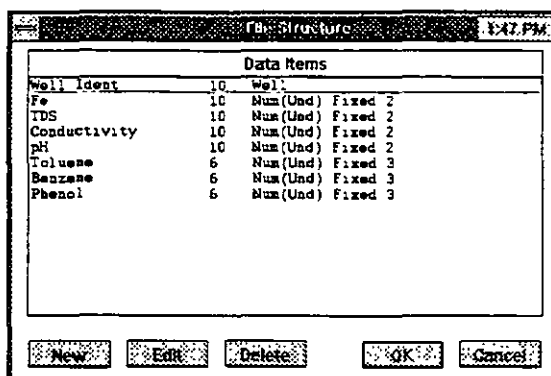

Figure 7-18
11. In the dialogue box type Toluene in New Field. Replace the default field length of 10 with 6. Click on **Numeric**. Replace the default number of decimal digits (2) with number 3. Click on **OK**. Notice that Toluene has been added to list of constituents on the last line.
13. Do the same for Phenol. The list of constituents should look as shown in Figure 7-18.